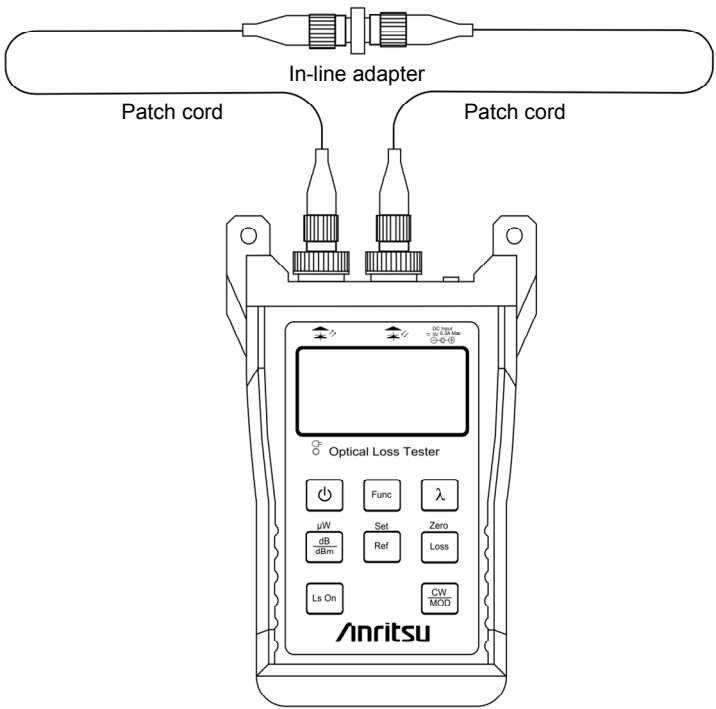

Figure 3 Optical Loss Measurement Setup
5. Via the in-line adapter, connect the fiber under test to the patch cord that is connected to the output port (Light Source). Connect the input port (Power Meter) to the other end of the fiber under test (See Figure 3).